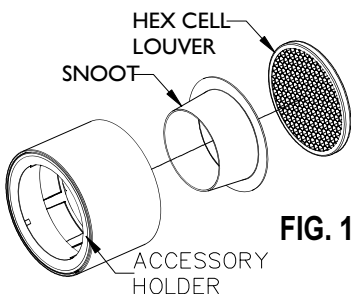

FIG. 11
2. Place accessories into the FRONT HOUSING through the back as shown in (FIG. 11).